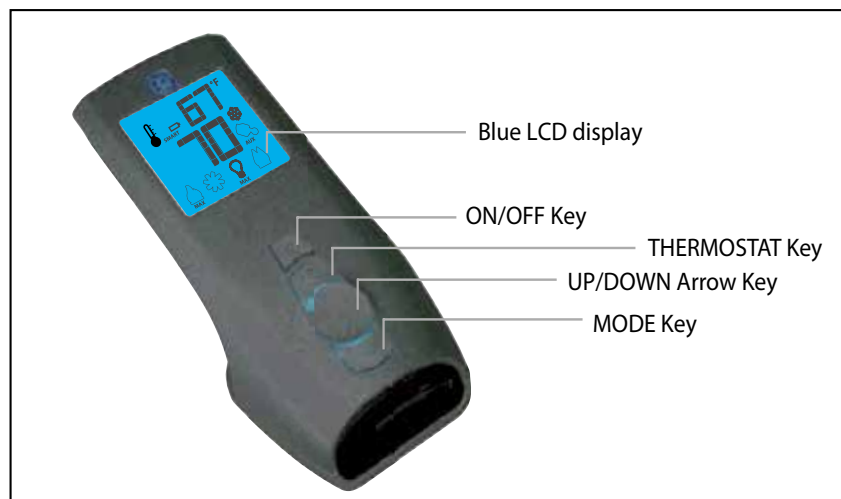
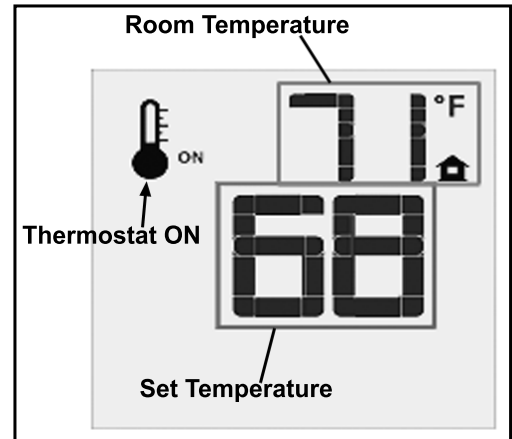
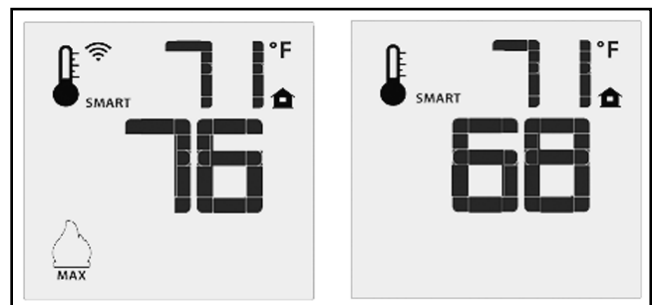
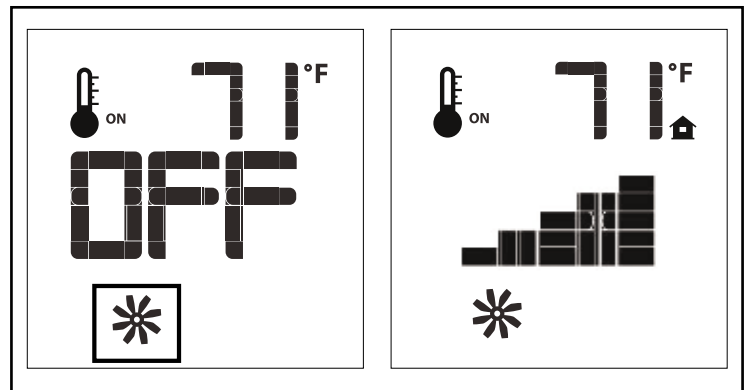

Figure 4: Proflame 2 Transmitter.
Figure 9: Remote Control Displays Set Temperature.
Figure 10: Remote Control's Smart Flame Function.
Figure 13: Fan Control
The Proflame 2 Transmitter is a black remote control with a blue backlit LCD display. It uses a streamline design with a simple button layout and informative LCD readout (Figure 4). The Transmitter is powered by three (3) AAA type batteries. A Mode Key is provided to Index between the features and a Thermostat Key is used to turn on/off or index through Thermostat functions (Figure 4 & 5)
The Remote Control can operate as a room thermostat. The thermostat can be set to a desired temperature to control the comfort level in a room. To activate this function, press the Thermostat Key (see Figure 4). The LCD display on the Transmitter will change to show that the room thermostat is “ON” and the set temperature is now displayed (see Figure 9). To adjust the set temperature, press the Up or Down Arrow Keys until the desired set temperature is displayed on the LCD screen of the Transmitter.
The Smart Thermostat function adjusts the flame height in accordance to the difference between the set point temperature and the actual room temperatures. As the room temperature gets closer to the set point the Smart Function will modulate the flame down. To activate this function, press the Thermostat Key (Figure 4) until the word “SMART” appears to the right of the temperature bulb graphic (Figure 10). To adjust the set temperature, press the Up or Down Arrow Keys until the desired set temperature is displayed on the LCD screen of the Transmitter.
The Westley comes with a convection fan that can be controlled with the Transmitter. The fan speed can be adjusted through six (6) speeds. To control the fan press the Mode key (Figure 4) to index to the fan control icon (Figure 13). Use the UP/DOWN arrow keys to turn on, off, or adjust the fan speed (Figure 13). A single beep from the IFC will confirm the command has been received